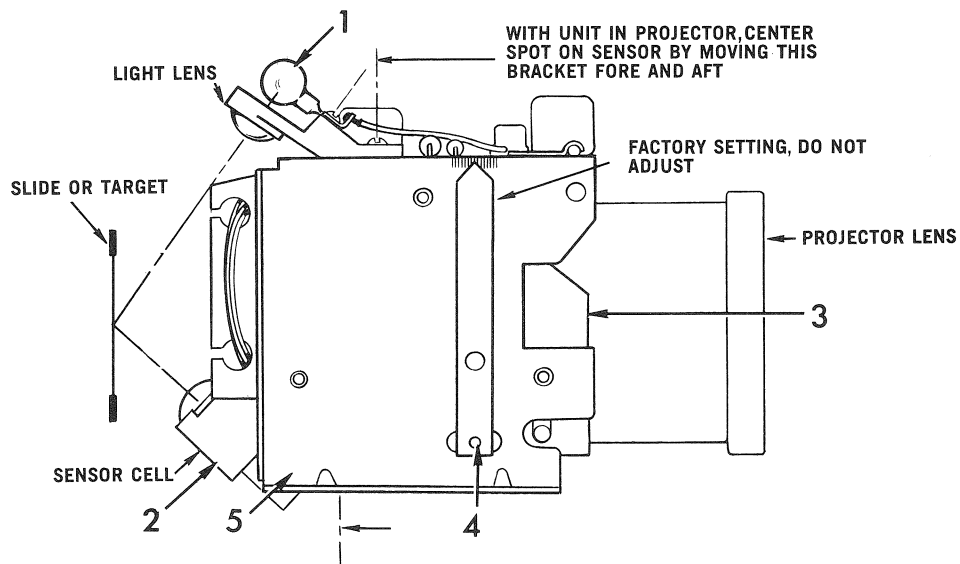

FIGURE 1
(See Figure 1) The automatic focusing system beams a spot of light from the bulb (1) on top of the lens bracket, against the slide. The bulb is run at a low voltage so as to be rich in infra-red. This light, reflected from the slide surface, is picked up by the electric eye sensor unit at the bottom of the bracket, (2), which has an infra-red filter. The output of the sensor is amplified by the circuit board and fed to the focus motor, which drives the movable portion of the lens bracket (3) back or forth via a cam (4), until a circuit balance is reached, that is, according to the distance from the slide surface as indicated by the position of the reflected light received. If the slide "pops" the position of the reflected spot on the sensor lens changes and the automatic focus mechanism will adjust the sensor lens position to center the spot of light in the lens, to maintain the distance to the slide, normally within .005". The focus system is capable of keeping the slide in finer focus than can be detected by the human eye.